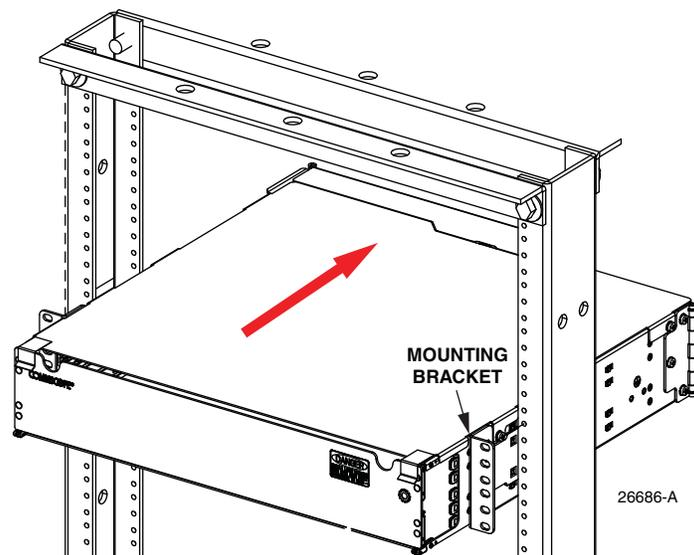

Figure 14. Sliding the Panel into the Rack
- b. When neighboring rack locations are filled, remove the mounting brackets, slide the panel through the rack, and reattach the mounting brackets (Figure 14).